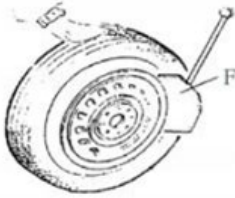

Fig 5
Ensure to exhaust the air in the tyre completely, place the tyre against the rubber buffer (S). Bring the shovel (F) against the bead about 10mm from the edge of the rim shown as Fig 5. Depress Bead breaker Pedal (U) to push paddle into tyre. Repeat the above operations on different positions around the tyre and both sides of tyre until tyre bead is released completely. (Fig 5.)